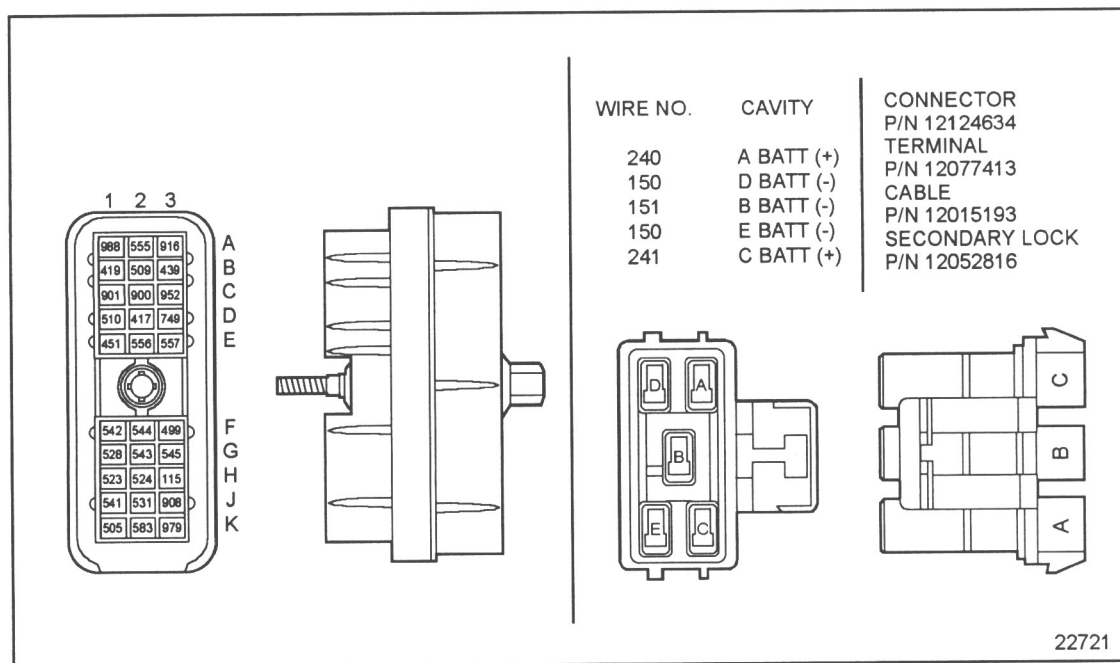

Figure 34-7 ECM Vehicle Interface Harness Connector
4. Measure resistance between socket W1 on the engine harness connector and socket B3 of the vehicle harness connector, and between W1 and the 5-way power harness sockets A and C. See Figure 34-7.